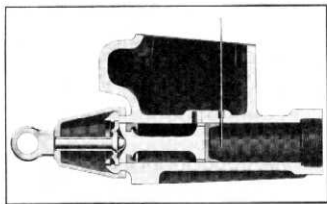

Fig. 29—Checking Compensating Port Clearance
5. Check clearance between the edge of the primary cup and the center of the compensating port, (fig. 29). To check this clearance, proceed as follows:
reservoir of the body and extending into the piston chamber (fig. 29).